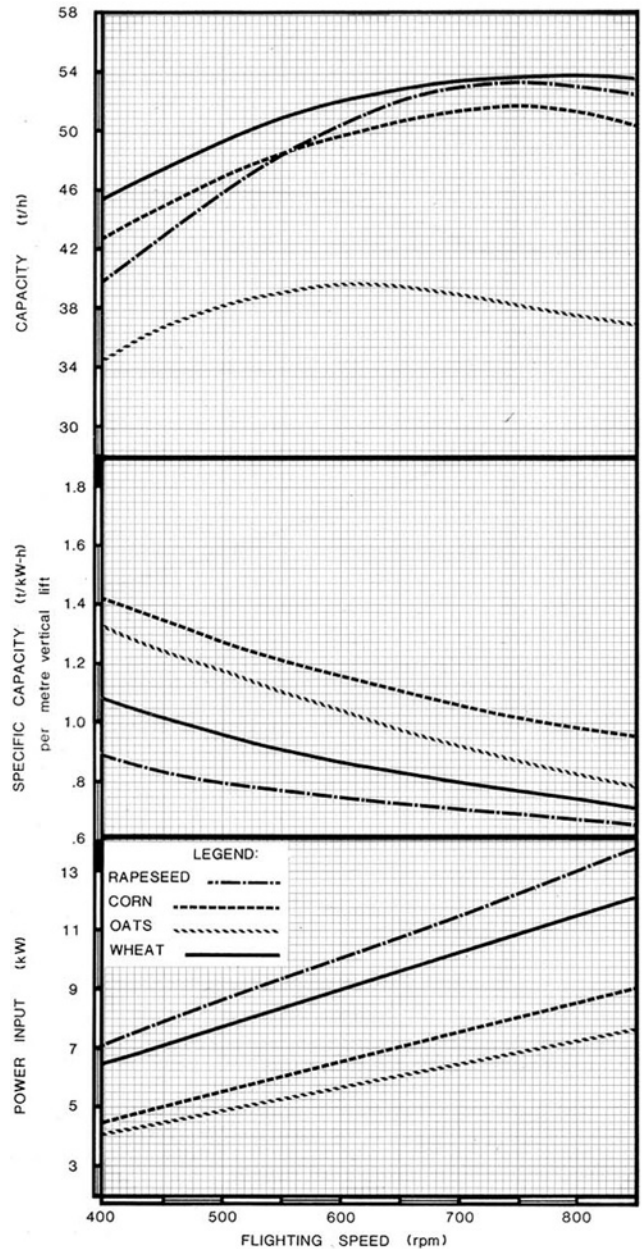
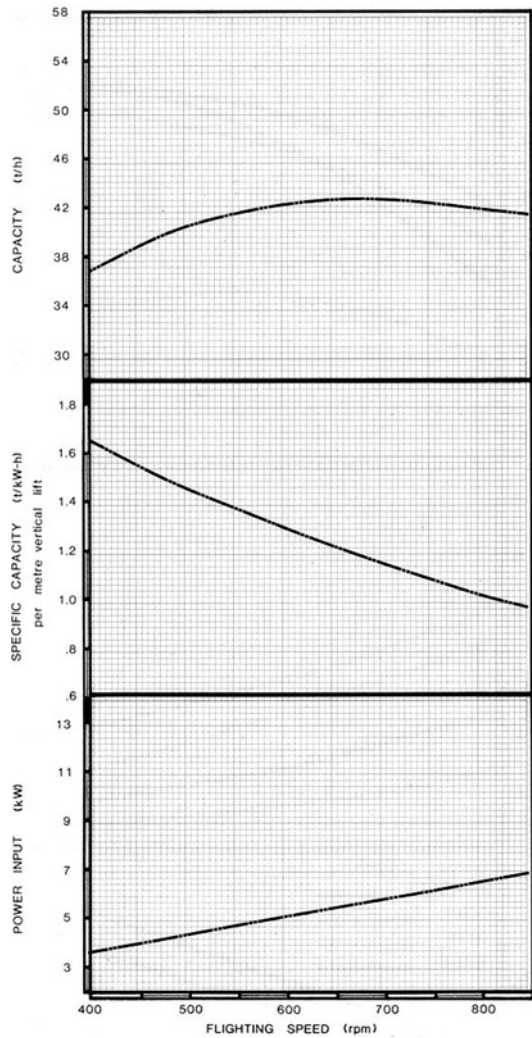

FIGURE 4. Capacity, Specific Capacity and Power Input for Various Flighting Speeds at a 30° Elevation Angle.
FIGURE 6. Capacity, Specific Capacity and Input Power with a Standard Test Material at 30° Elevation Angle.
**Capacity:** FIGURE 4 shows the capacities of the Westfield W80-41 in dry wheat, oats, corn and rapeseed at a 30° elevation angle. Maximum capacities were 54.2, 39.8, 51.3 and 53.3 t/h (1990, 2740, 2040 and 2350 bu/h) in wheat, oats, corn and rapeseed, respectively. Lower capacities can be expected in tough or damp grains. Maximum capacities occurred at flighting speeds ranging from 600 to 800 rpm.
As shown in FIGURE 4, the specific capacity1 ranged from 0.65 to 1.40 t/kW-h per metre of vertical lift when operating at a 30° elevation angle in dry wheat, oats, corn and rapeseed.
1Since the specific capacity is greatly dependent upon grain properties, such as variety and moisture content, FIGURE 4 should not be used for comparing efficiencies of different augers. The data presented in FIGURE 6, APPENDIX II, using a standard medium, may be used for comparisons of different augers.
FIGURE 4 gives the power requirements for the Westfield in dry wheat, oats, corn and rapeseed at a 30° elevation angle. Power requirements ranged from 4 to 13.5 kW (5.5 to 17.5 hp). More power would be needed in high moisture grain. In general, a 15 kW (20 hp) power supply would have ample reserve power to operate the Westfield in most conditions.
(a) Capacity and Power Requirements: FIGURE 6 gives the capacity, specific capacity and power requirements for the Westfield W80-41 in a standard test material. These data may be used for comparisons of different grain augers.